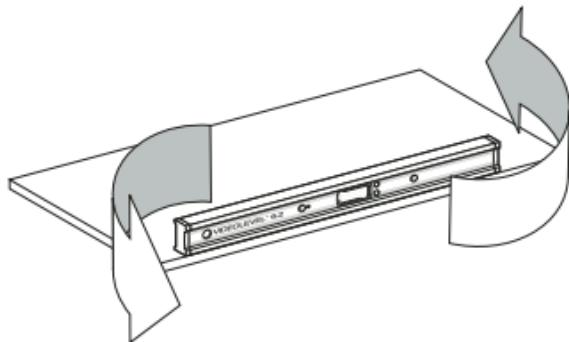

Figure 7: Turning the LaserVision End-for-End
- Now turn the level around end for end with the same surface of the level touching the relatively level surface and aligning the level to the same edge or line on the surface (Figure 7, page 6). The display should now show the same